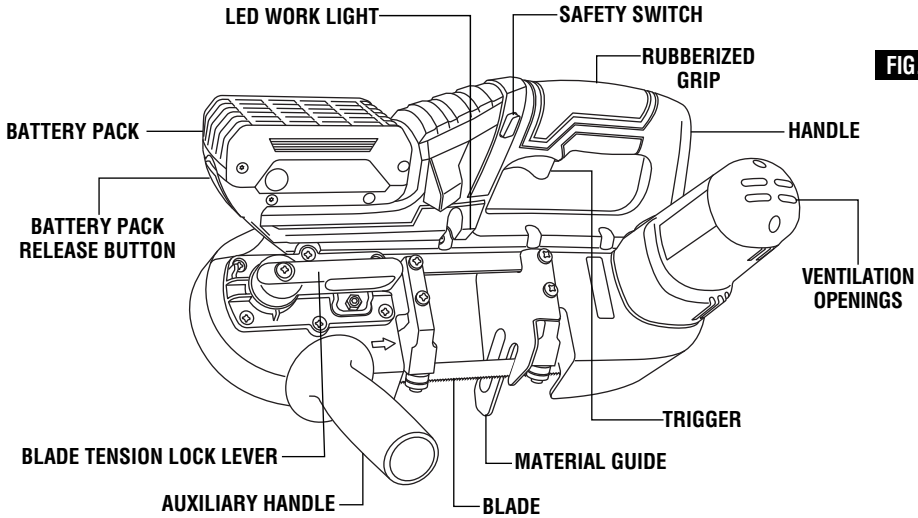

FIG. 1
2. Turn tension lock handle located on the front of the saw 180° clockwise to release blade tension (Fig. 1).
2. Turn tension lock handle 180° counter-clockwise to secure the blade on the pulleys (Fig. 1).
The tool must be supported with the auxiliary handle. The handle must be threaded into the front housing of the tool (Fig. 1).
The light is maintenance free and was designed to last the life of your tool (Fig. 1).
The safety switch is designed to prevent accidental starts. To operate safety switch, press the release button with your thumb on either side of handle to disengage the lock, then pull the trigger (Fig. 1). When the trigger is released the button will engage the safety switch automatically, and the trigger will no longer operate.
Press the battery pack release button again and slide the battery pack completely out of tool housing (Fig. 1).